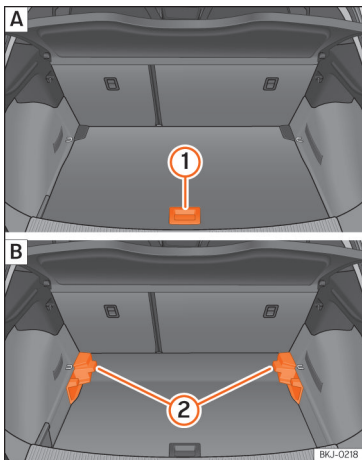

Fig. 141 Variable luggage compartment floor:
- To move from the low position to the high position, lift the floor using the handle **>>> Fig. 141 ①**, and pull it back until the front of the floor has fully passed the supports **②**.
- Move the floor forward over the supports as far as the rear seat backrest and then lower the floor with the handle **①**.
- To move from the high position to the low position, lift the floor using the handle **>>> Fig. 141 ①**, and pull it back until the front of the floor has fully passed the supports **②**.
- Now let the front part fall to the floor and slide the floor forwards as far as the rear seat backrest; lower the floor at the same time with the handle **①**.
- Lift the variable floor in the high position using handle **>>> Fig. 141 ①**, pull it up and push it towards the backrest of the rear seats until it folds along the hinge line and the movable part of the floor is resting on itself.